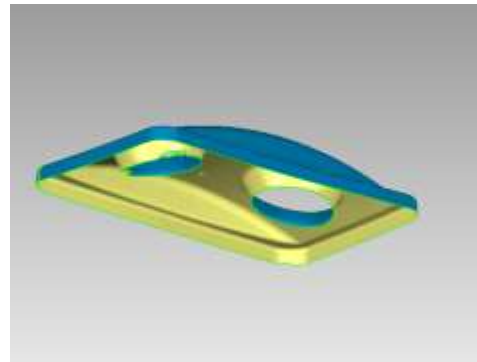

Figure 6
11. **Rotate** the object as shown in **Figure 6**.